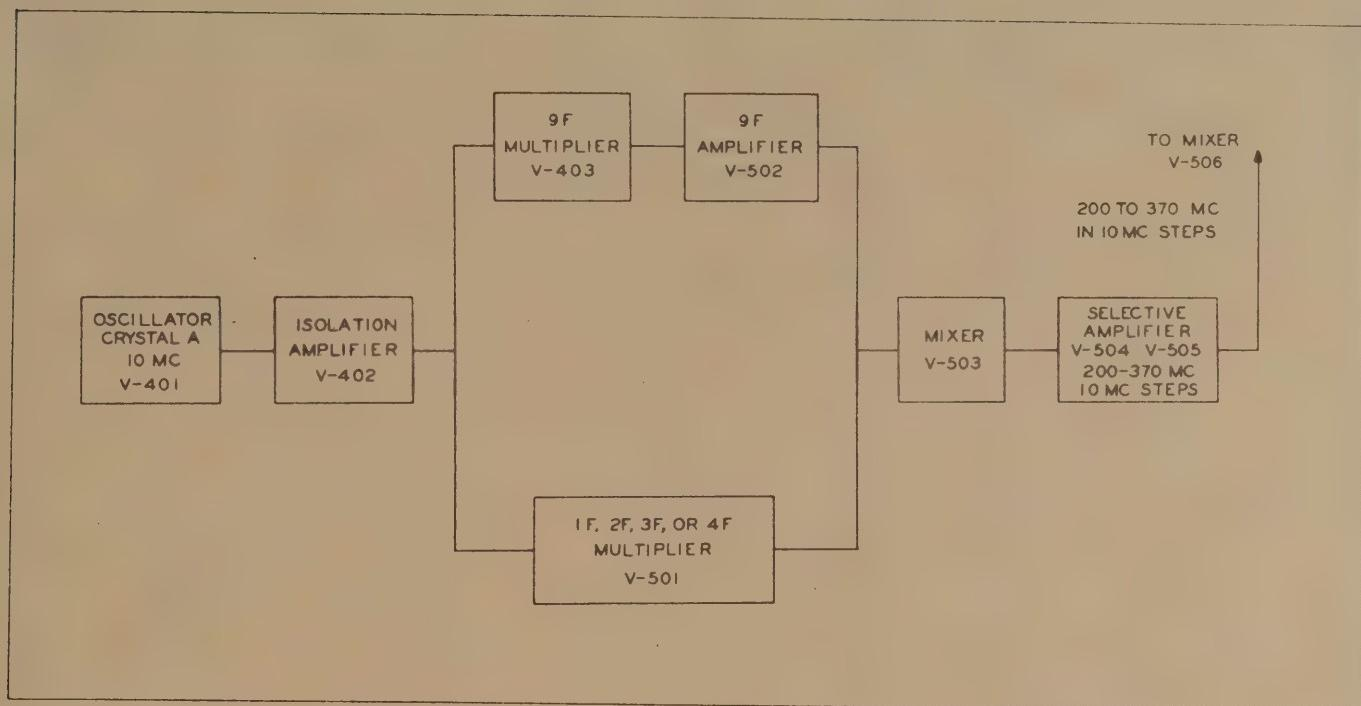

Figure 2-7. Receiver-Transmitter RT-178/ARC-27, Spectrum System,
**2-52. GENERAL.** (See figure 2-7.) The spectrum system, consisting of the Spectrum Oscillator and the Spectrum Amplifier, is used to provide injection voltage to the first mixer for the receiver and also in a similar conversion for the transmitter. Fundamentally a 10 mc crystal oscillator is multiplied to obtain harmonics in the range of 200 to 370 mcs. Selectivity is provided to reduce the strength of unwanted harmonics adjacent to the desired one.